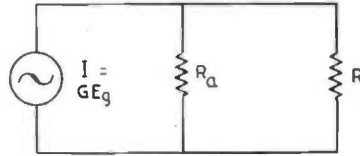

Fig. 4.
An alternative circuit which produces the same answer is shown in Fig. 4, where instead of a voltage generator in series with  $R_a$ , we have in parallel with  $R_a$  an infinite-impedance generator delivering a current of magnitude  $GE_g$ , where  $G$  is the mutual conductance and is equal to  $\mu/R_a$ . The external load resistance  $R$  is in parallel with  $R_a$ , so that the current  $I_a$  flows through an impedance  $RR_a/(R + R_a)$ , thereby generating a potential difference:
(The negative sign arises because the constant-current generator may be regarded as the limiting case of a generator of large e.m.f. in series with a high resistance, and the potential difference across the external circuit is obviously opposed to the e.m.f. of the generator.) The substitution of  $G = \mu/R_a$  in Equation (8) immediately reproduces Equation (7), and the equivalence of Fig. 4 with Fig. 3(b) is thus demonstrated.
The current-generator equivalent circuit of the amplifying triode has been introduced in the preceding paragraph simply as an algebraic transformation from the voltage-generator circuit; but the current-generator circuit has the advantage of avoiding a reversal of phase between the grid voltage in the real circuit and the fictitious generator in the equivalent circuit. It can further be argued that there is a better physical basis for Fig. 4 than for Fig. 3(b), and the author's approach to this is
Equation (10) would be represented by Fig. 4 if the output of the current-generator were changed from  $GE_g$  to  $\sqrt{\overline{I_{ar}^2}}$ .
It may also be argued that the effect of a positive voltage on the grid of a triode is to cause additional electrons to pass to the anode, and that the charge so reaching the anode will be dissipated partly through the external circuit and partly through the anode resistance  $R_a$  of the valve, as described from the shot noise example. This provides some physical basis for Fig. 4 and the concept that  $E_g$  primarily generates a *constant current*, but the presence of a finite  $R_a$  modifies the magnitude of net current flowing through the external circuit. This physical basis provides a case for the more frequent use of the circuit of Fig. 4.